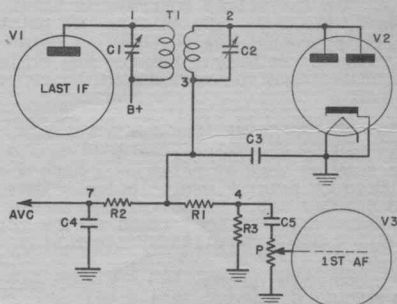

Figure 4.6 - 2nd Detector - A-V-C Section
4.6 2ND DETECTOR - AVC SECTION - Figure 4.6 - (Amplitude Modulated Receiver)